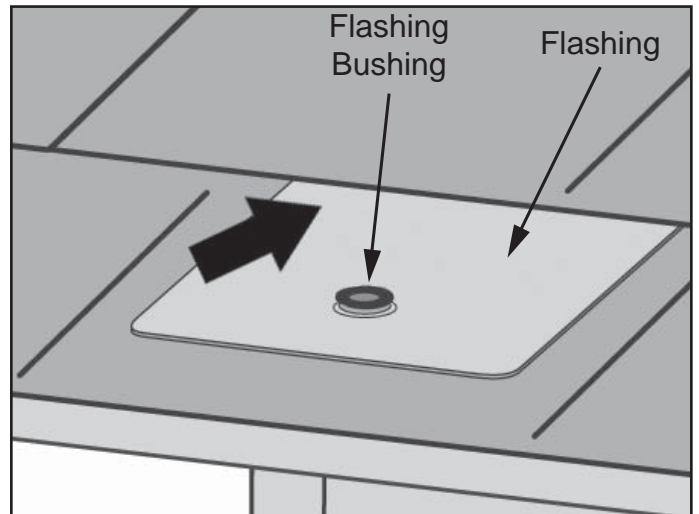

Figure 16.
2. Insert the flashing so the top part is under the next row of shingles and the flashing hole/grommet aligns with the mounting hole. See Figure 16.